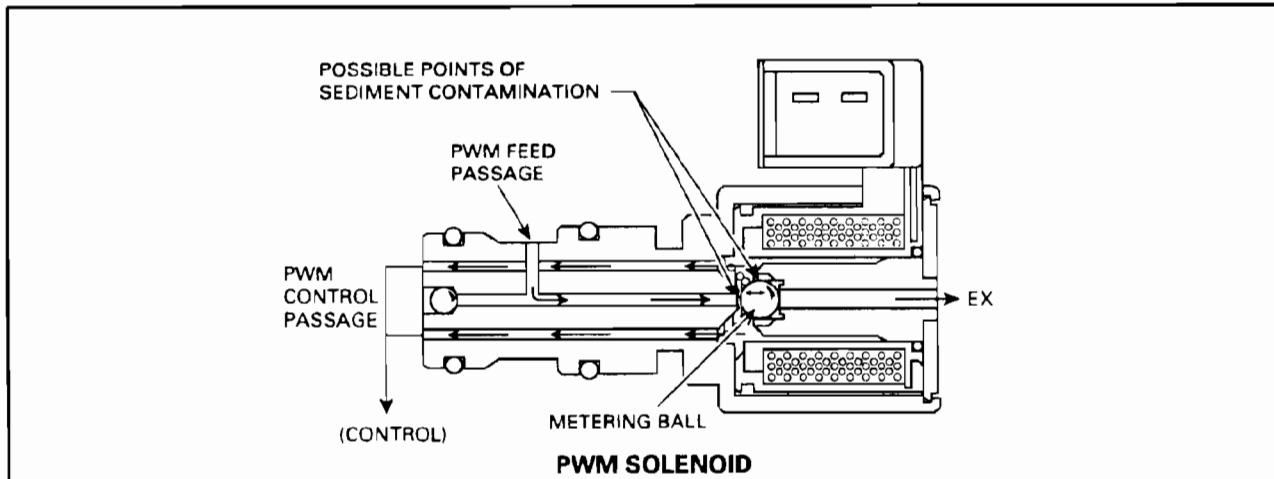

Figure 44
**CAUSE:** The cause may be due to sediment trapped in the PWM Solenoid, and may enter the solenoid from either the control and/or feed passages and lodge in the flow path around the metering ball causing an undesired leak (See Figure 44).